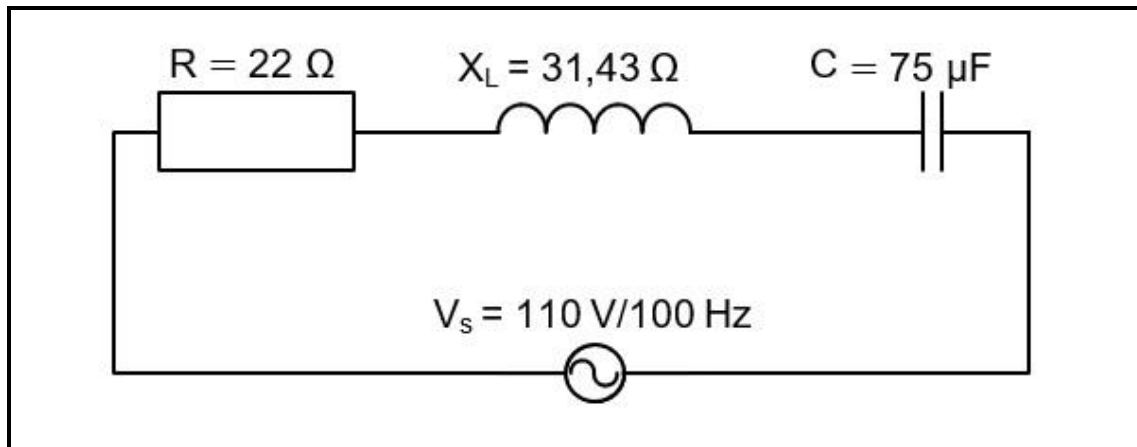

FIGURE 7.7
7.7 Refer to the circuit diagram in FIGURE 7.7 and answer the questions that follow.